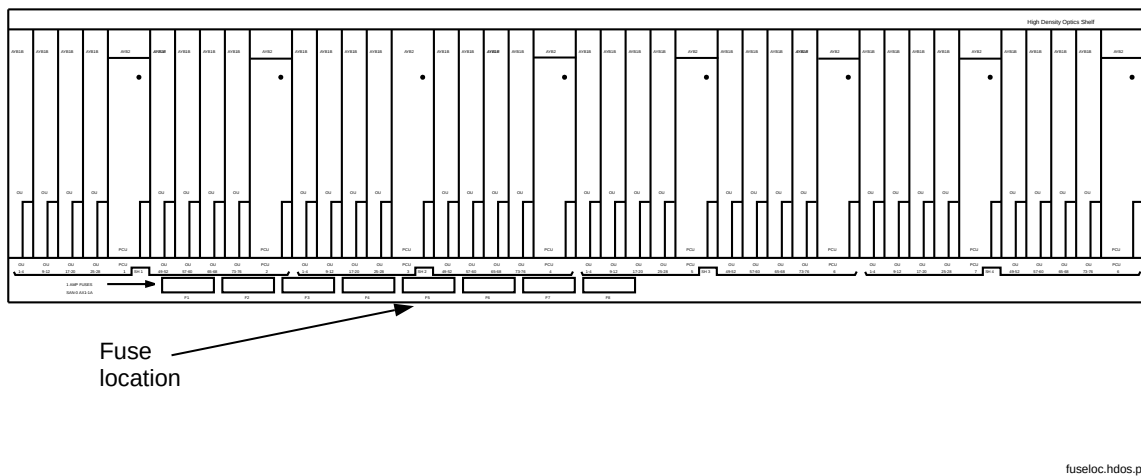

Figure 3 – HDOS Assembly Fuse Location
- Each HDOS (if equipped) (Figure 3)